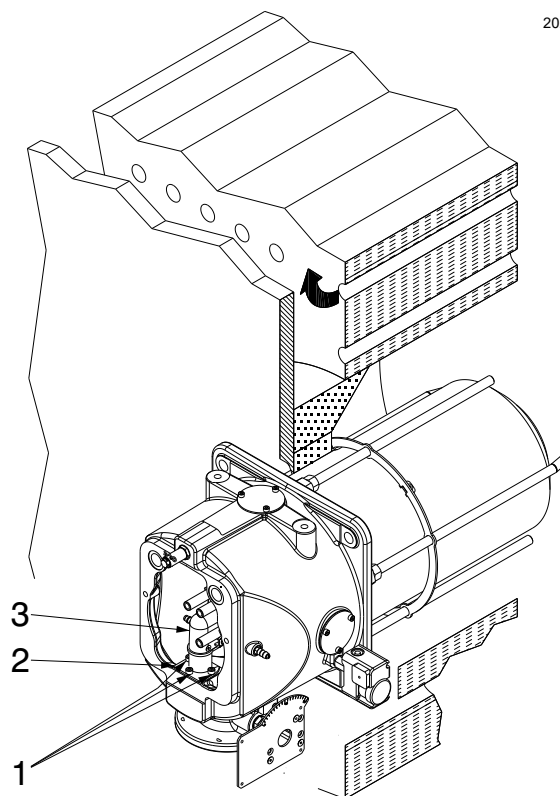

Fig. 17
- unscrew the nuts 1) (Fig. 17);
At this point of the installation, the combustion head is fixed to the boiler as shown in Fig. 17 on page 22. It is therefore especially easy to adjust, and this adjustment depends only on the maximum output of the burner.